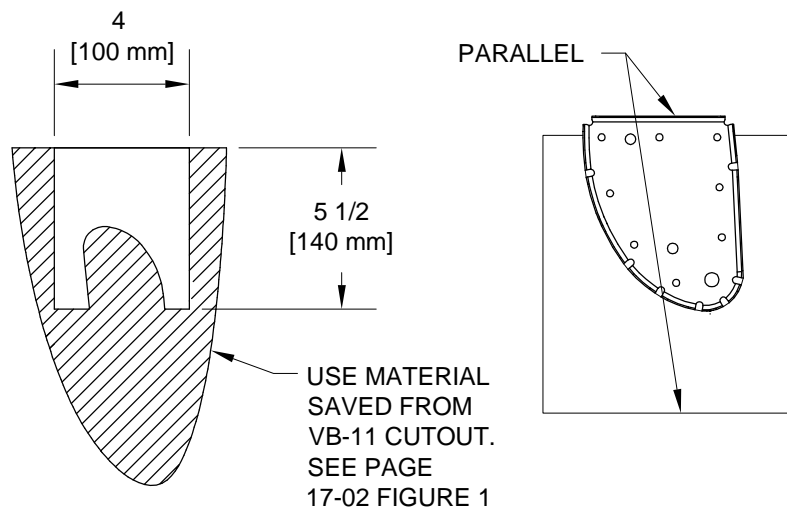

FIGURE 1: CUT CRADLE MATERIAL
Step 1: Trace the outline of an FL-1004 Nose Rib onto the wood as shown in Figure 1.